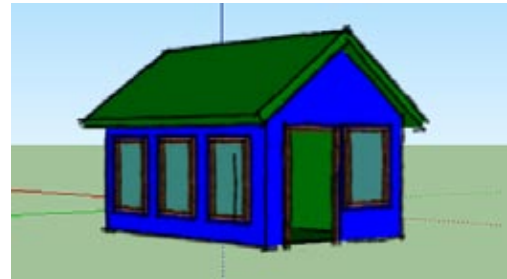

Figure 12-25
6. The next properties to update are for faces. Click the Google Colors style and apply it to Face Settings. This changes the front and back face colors of the style (Figure 12-25).